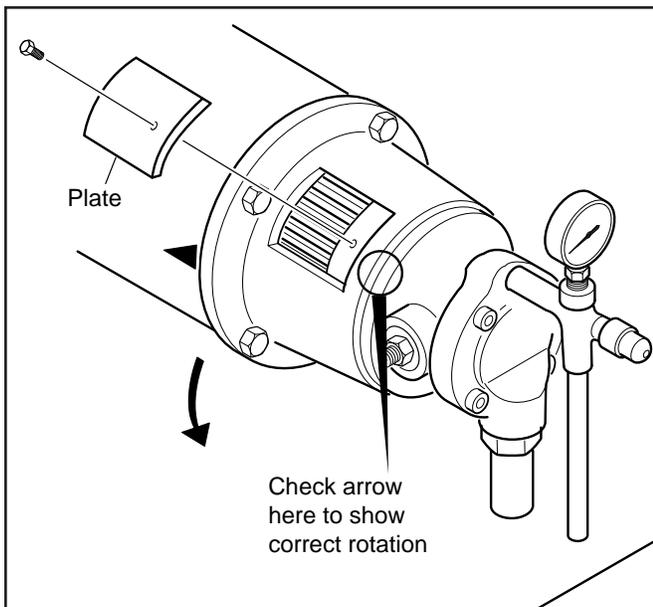

Figure 4.5 Check Pump Rotation
2. Check pump rotation by pushing starter as shown in Figure 4.5.